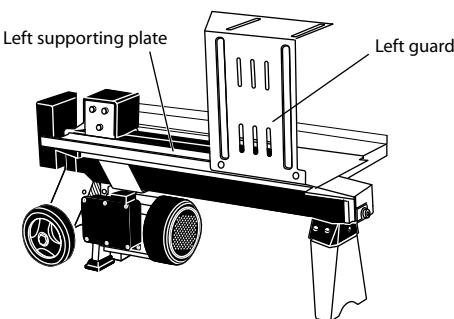
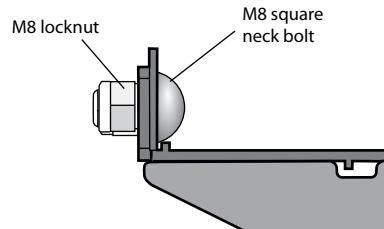

Fig. 1a
Fig. 1b
3. Insert the left guard into the groove of the left supporting plate, ensure that the holes of the left guard are aligned with the holes of left supporting plate, use 2 pcs. of M8 square neck bolts and 2 pcs. locknuts to fix (Fig.1a, Fig.1b).